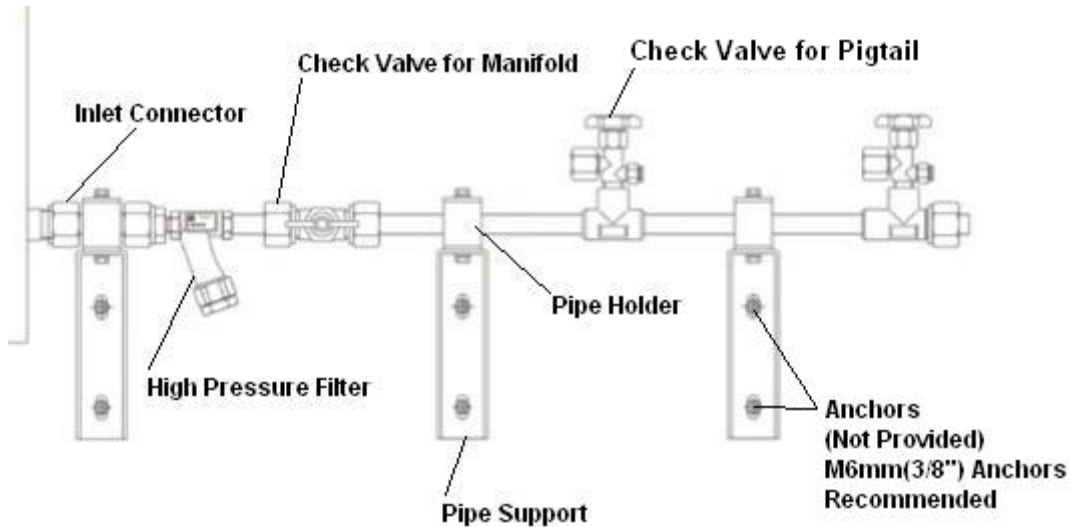

Figure 5
8. Each header extension is shipped with pipe holder and pipe support. Mount pipe support against the wall and on the bottom side of the holder as shown in Figure 5. Attach pipe support to wall using appropriate anchors, 6mm (3/8") diameter anchors are recommended.